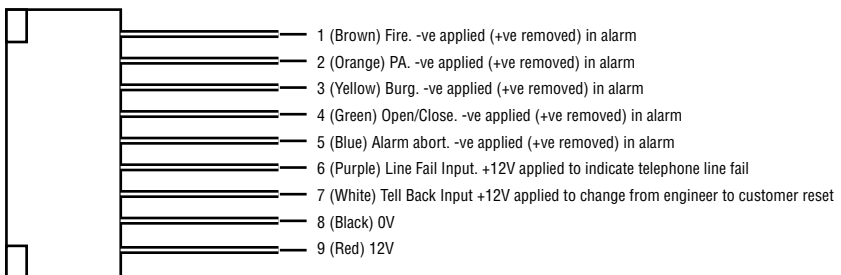

Figure 19. Communications Wiring Harness.
4. Make any necessary connections from the communicator to the Comms Wiring Harness. Figure 19 shows the outputs available on the free ends of the Comms Wiring Harness.